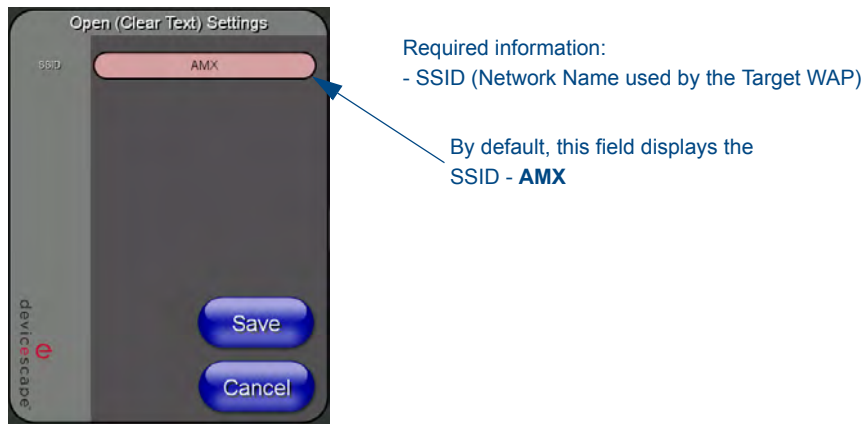

FIG. 23 Wireless Settings page - Open (Clear Text) security method
- From within the *Wireless Security* section, press the **Open (Clear Text)** button to open the *Open (Clear Text) Settings* dialog (FIG. 23). An Open security method does not utilize any encryption methodology, but does require that an alpha-numeric SSID be entered. This method sends out network packets as unencrypted text.
- From the *Open (Clear Text) Settings* page (FIG. 23), press the **Save** button to incorporate the new information into the device and begin the communication process.